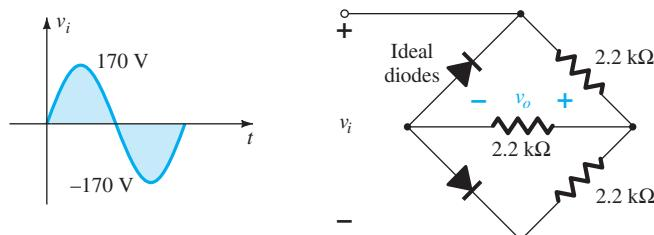

FIG. 2.175
*31. Sketch v_o for the network of Fig. 2.175 and determine the dc voltage available.